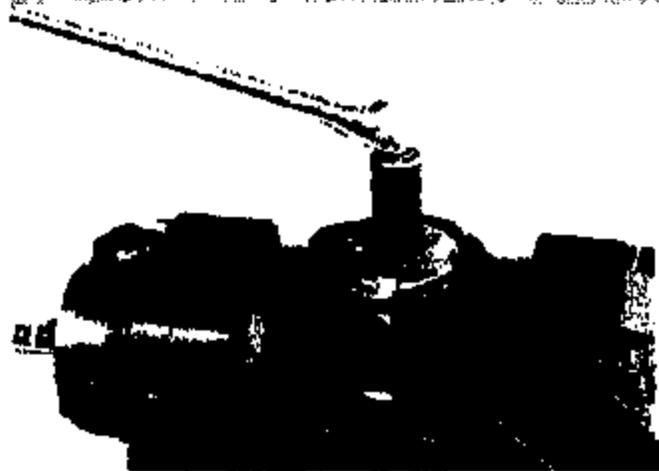

Figure 6
3. Use a 5/8" or 3/4" allen head socket and breaker bar to remove the tab lock retainer (Figure 6).